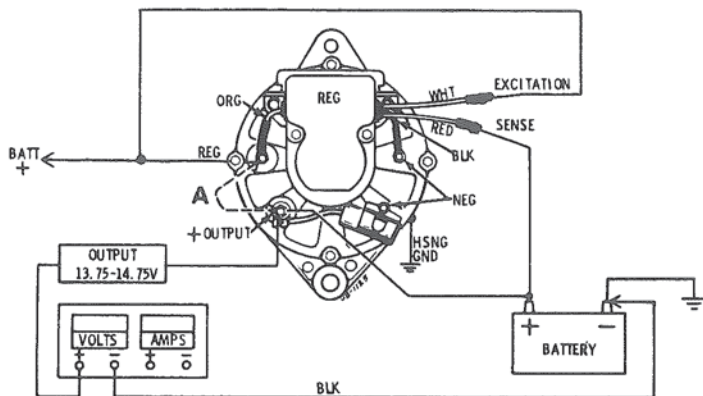

Figure 3. Open Diode-Trio Test
2. Install jumper (A) between output and regulator terminals. Connect voltmeter leads as shown. Figure 3.
3. Start engine. If voltmeter reading is 13.75 volts - 14.75 volts, the positive (+) diode trio assembly is open and must be replaced. If reading is not in this range, remove jumper (A) and go to regulator test.